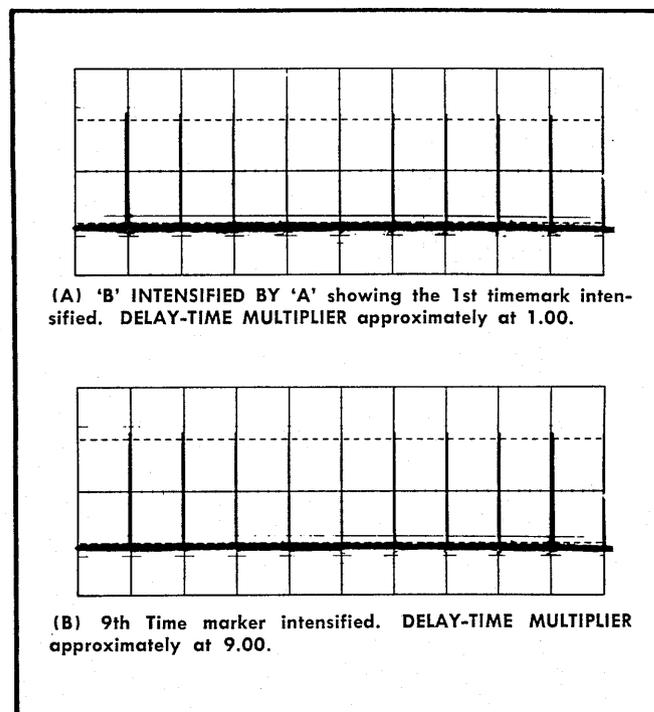

Fig. 5-3. Delay linearity measurement showing intensified markers.
e. Adjust the display intensity level with the INTENSITY control so the intensified portion of the display is visible, then by means of the DELAY-TIME MULTIPLIER 1-10 dial position the intensified portion of the display to the first time mark (see Fig. 5-3).